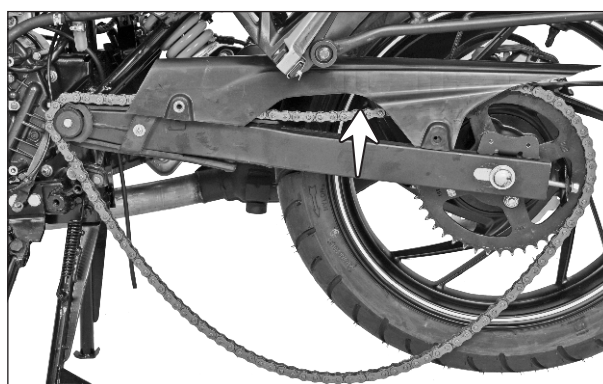

Fig. 2.98
- Push the rear wheel from the back towards front so that the drive chain loosens and hangs as shown. (Fig. 2.98)